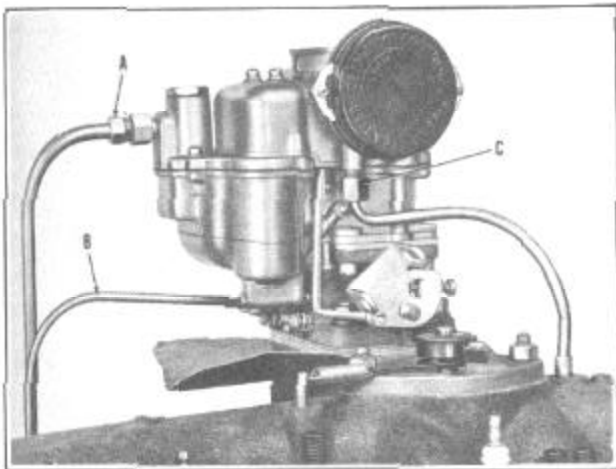

FIGURE 81
3. Disconnect gas line (A), Figure 81, from carburetor to fuel pump.
4. Disconnect vacuum line from carburetor to distributor (B).
5. Disconnect heat riser line (C) from exhaust manifold to carburetor.